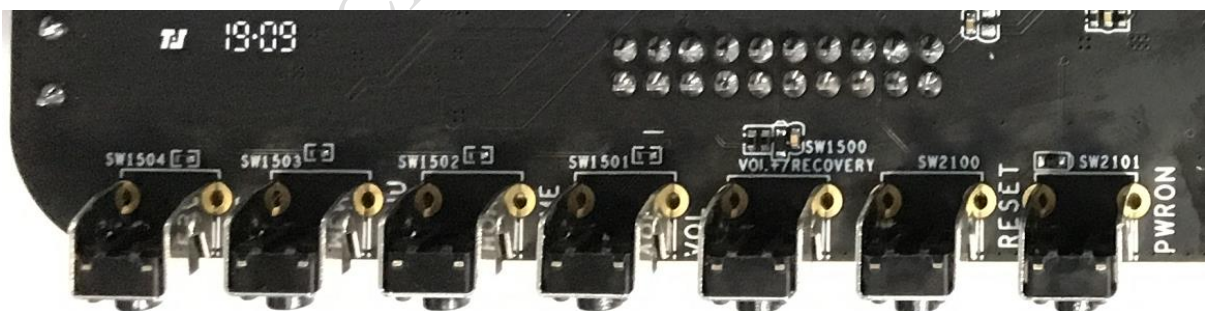

Figure 3-5 EVB buttons
2. ADC power supply is provided by VCC\_1V8, and the corresponding key value can be calculated according to the resistance parameter in Figure 3-5.